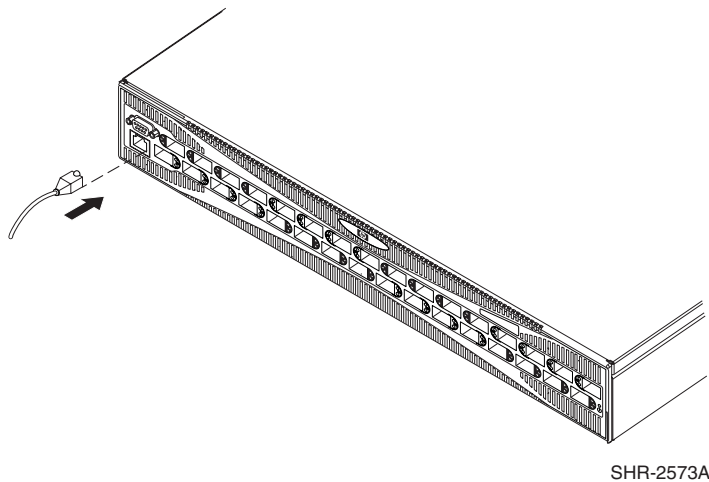

Figure 15: Connecting the Ethernet cable
2. Connect one end of an Ethernet cable to the SAN Switch 2/32 Ethernet port as shown in Figure 15.